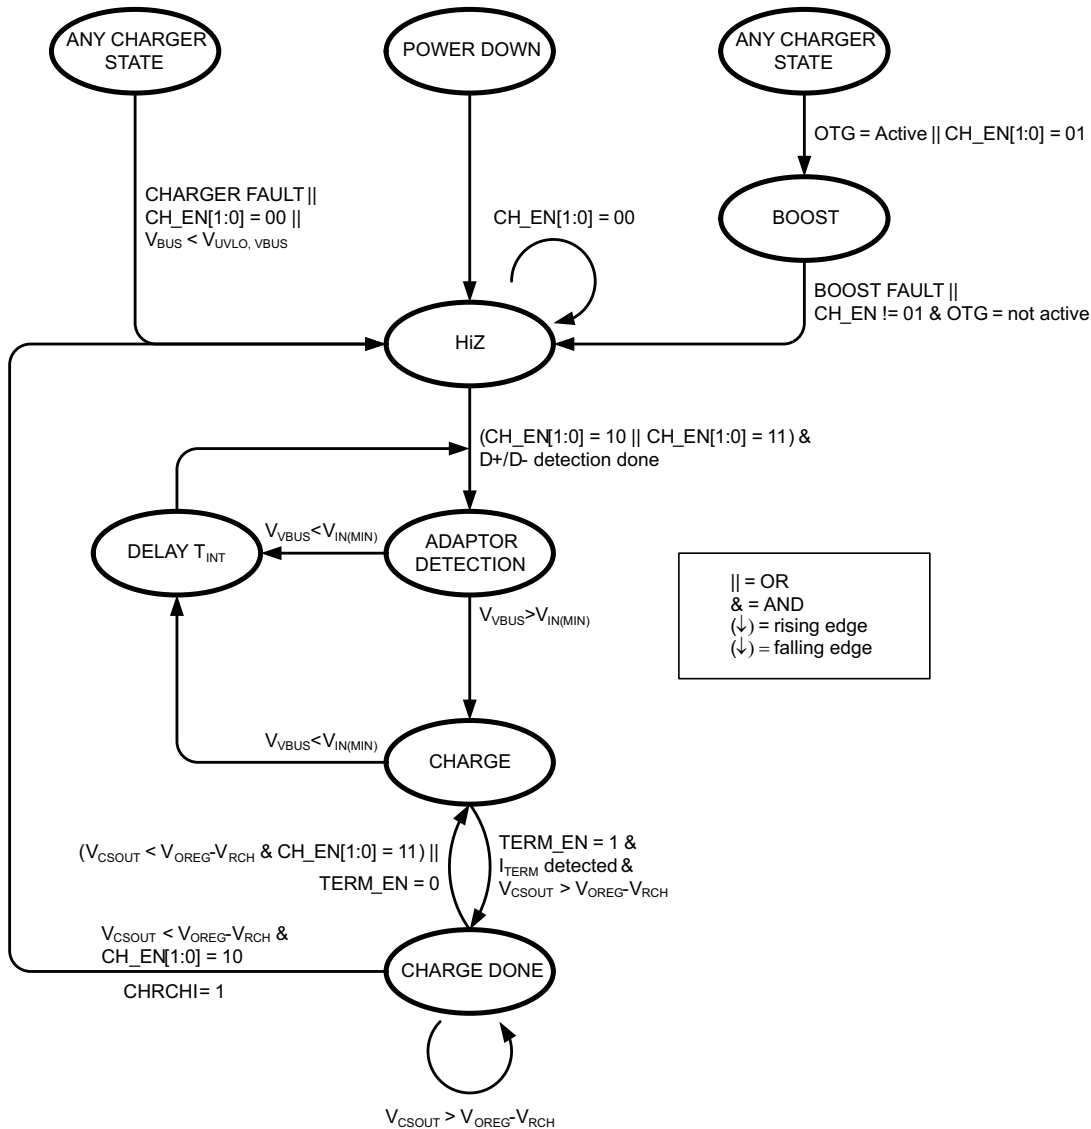
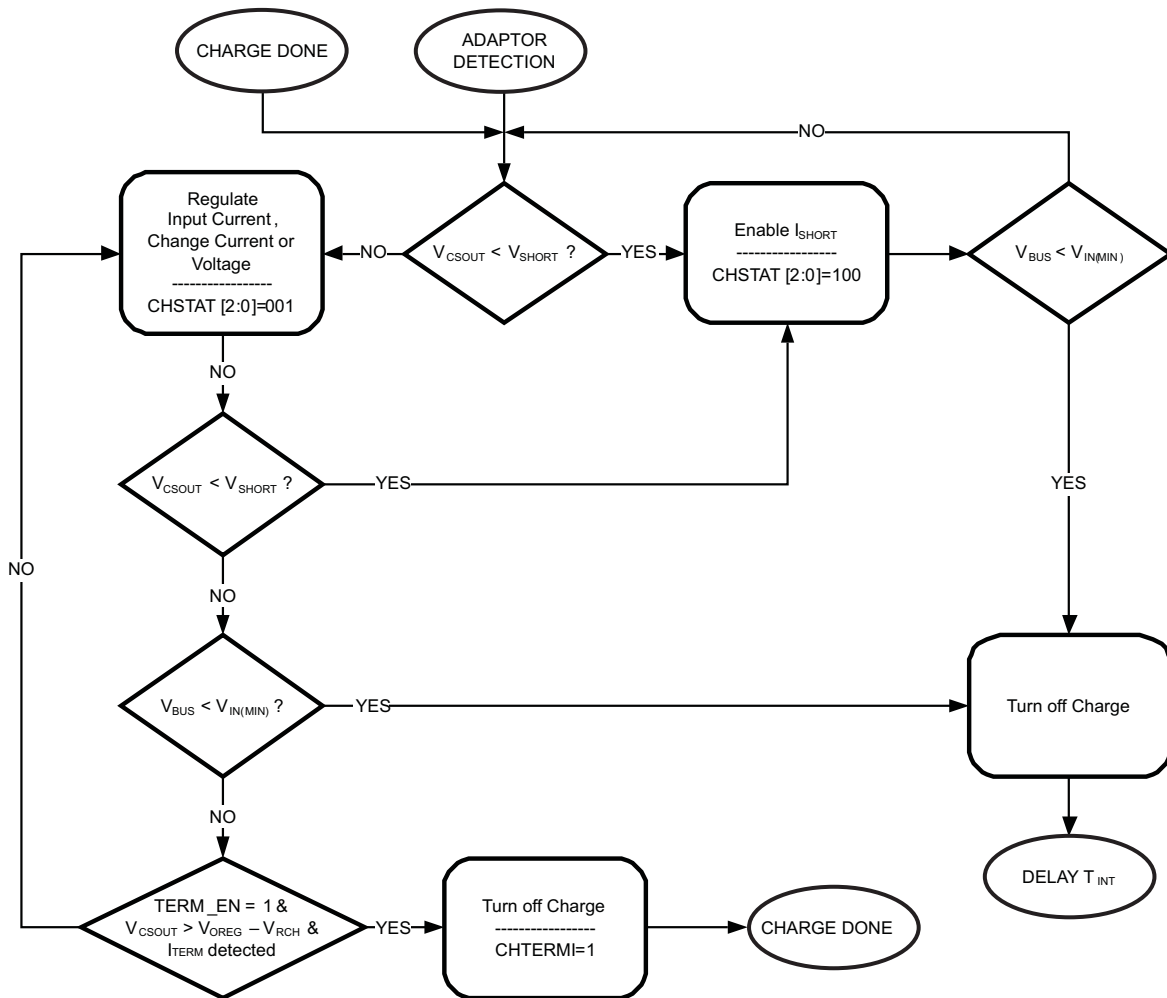

Figure 40. State Diagram of USB Charger Circuit
Figure 41. Detailed Charging Flow Chart
The global state diagram of the charger is shown in Figure 40 and the detailed charging algorithm in Figure 41. HiZ mode is the default state of the charger where Q1, charger PWM and boost operation is turned off. If any fault occurs during charging, the CH_EN[1:0] bits in the CONTROL register are reset to 00b (OFF), fault bits are set in the INT2 register, an interrupt is issued on the INT pin, and HiZ mode is entered. Charging is re-initiated by either host control or automatically if V_{BUS} is power cycled.
- The device is in CHARGE DONE state (see Figure 40) and the `TERM_EN` bit is set from 1 to 0.